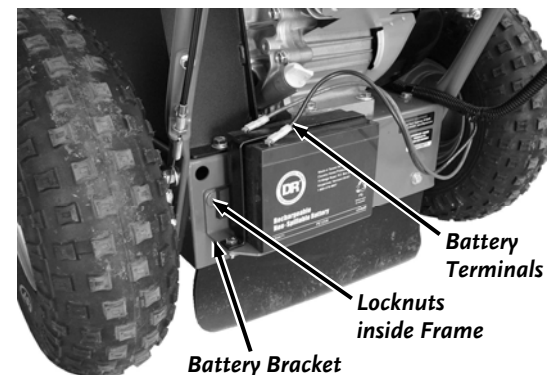

Figure 16
1. For Electric Start machines you will first need to disconnect the Battery Terminals and remove the Battery Bracket by removing the two Locknuts from the Bracket Studs with a 1/2" Wrench (leave Battery attached to Bracket) (**Figure 16**).